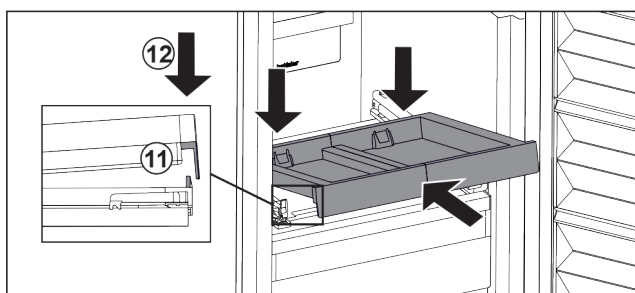

Fig. 104
- ▶ Slide in at an angle. Make sure that the stop is behind the lug on both sides. *Fig. 104 (11)*
- ▶ Lower the pull-out board at the front. *Fig. 104 (12)*